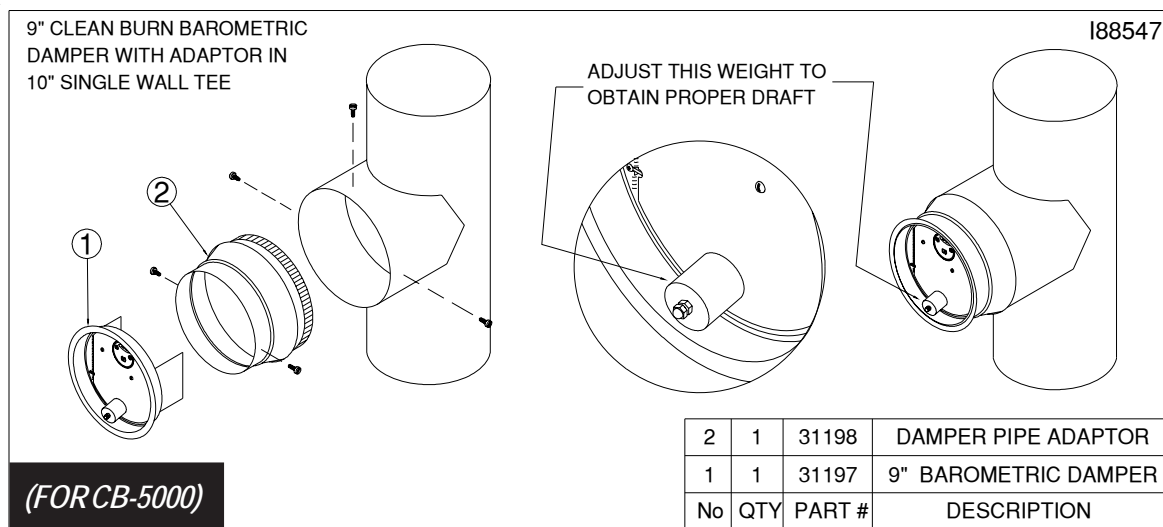

Figure 4N - Installation of 9" Barometric Damper for Model CB-5000 Furnaces
2. **For CB-5000 ONLY:** Install the 9"-to-10" pipe adapter in the opening of the tee as shown in Figure 4N.
4. Install two self-tapping screws (i.e. one on each side of the barometric damper) to hold the damper in place as shown in Figures 4N and 4O. **DO NOT** install a screw at the bottom of the barometric damper, or the flapper of the damper will not operate correctly.